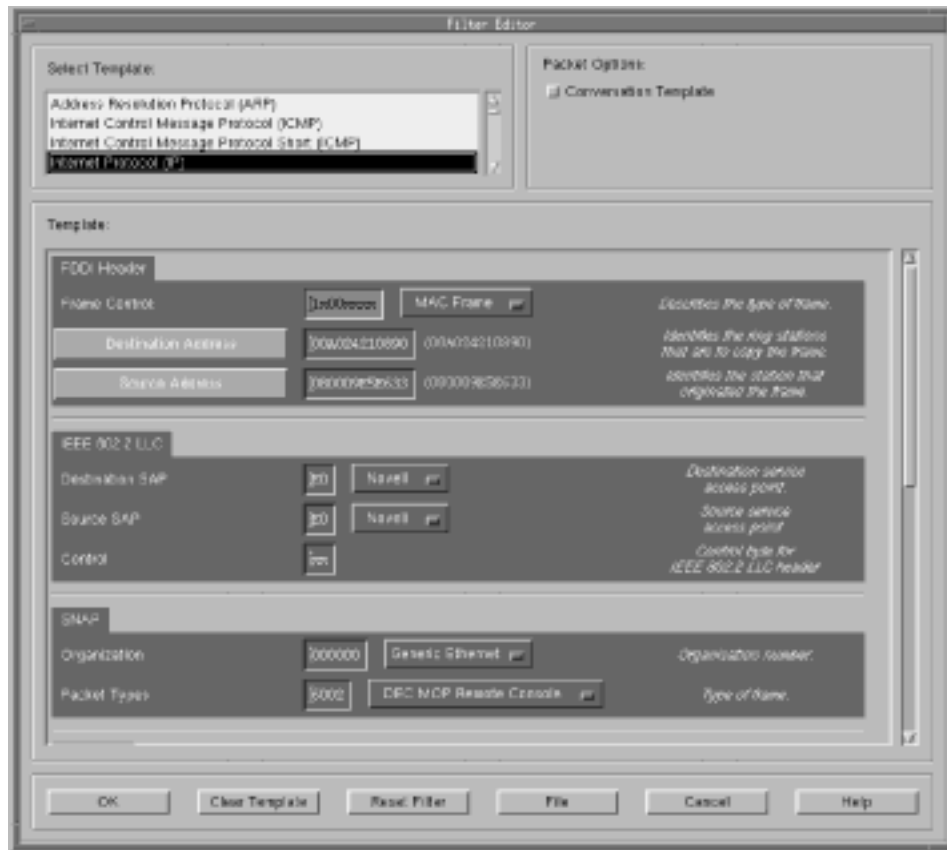

Figure 55. Filter Editor Dialog Box
1. Click **Filter** in the Edit Packet Capture dialog box to bring up the Filter Editor, as shown in Figure 55 on page 113.